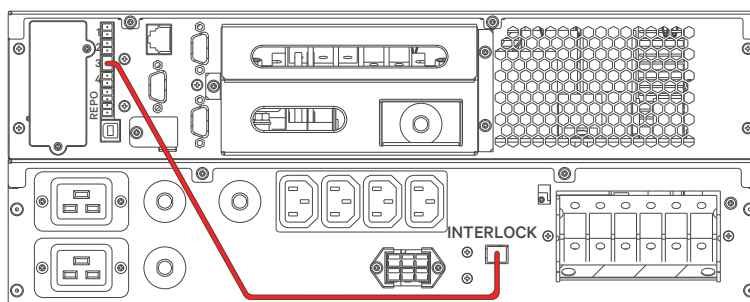

Figure 5-8 Ports connection (Taking ITA2 5kVA UPS and 5kVA single POD for example)
2. Use the maintenance bypass signal cable (accessory of POD) to connect Dry Contact Port 3 of the UPS with interlock port on the POD. See Figure 5-8.